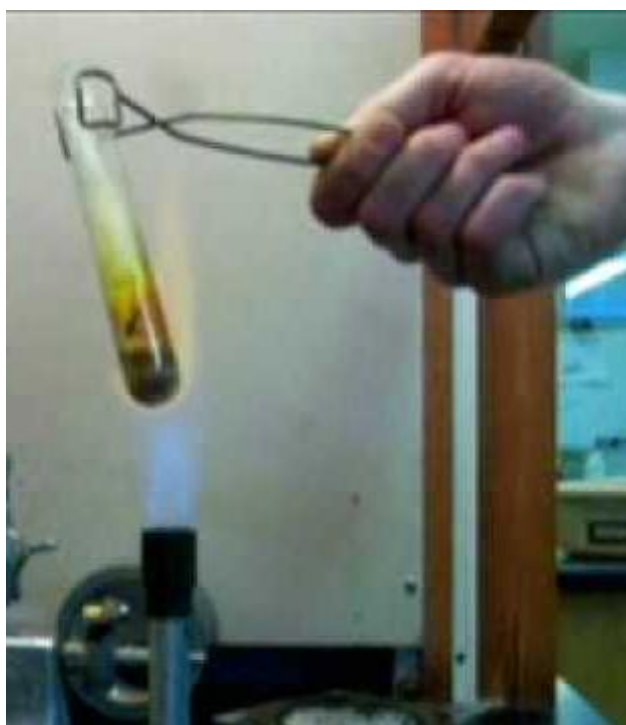

Figure 4: The reaction between iron and sulphur
1. Place the remaining half of the mixture in a test tube. Heat the test tube strongly for a few minutes as shown below in Figure 4